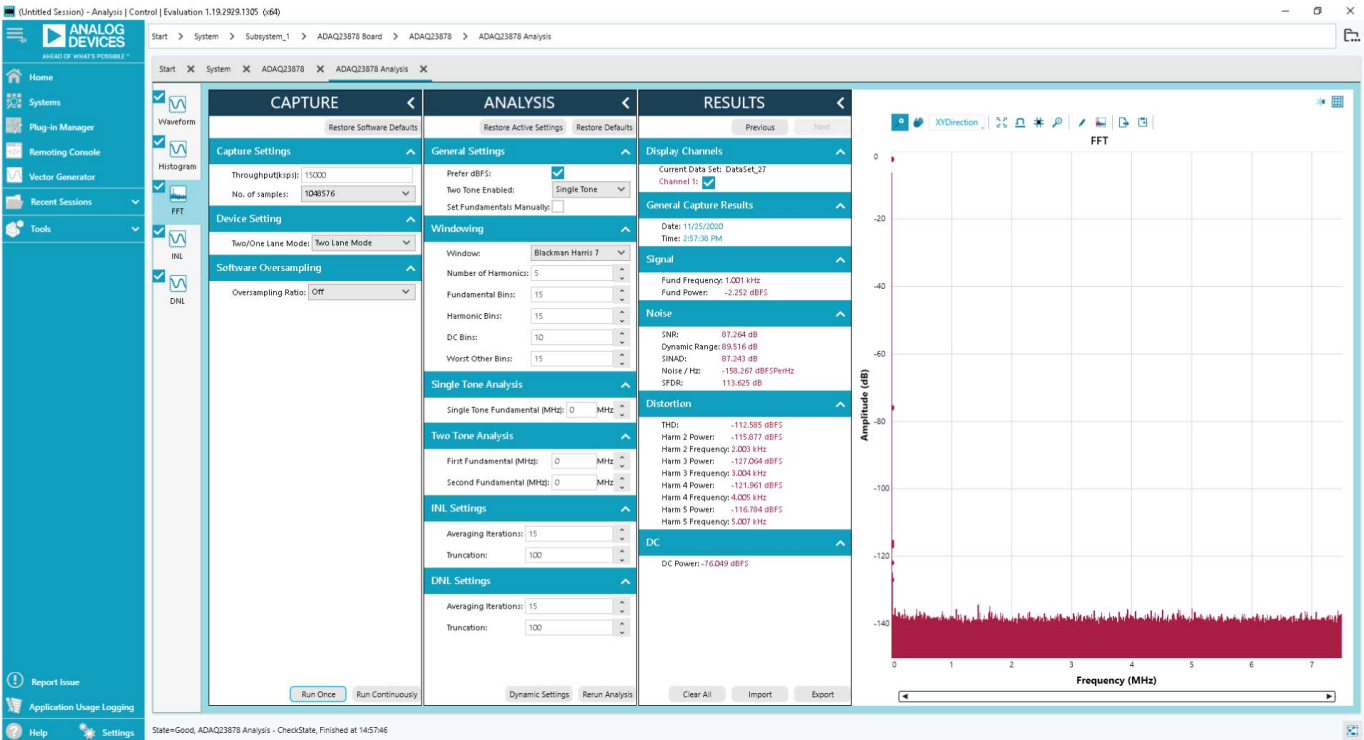
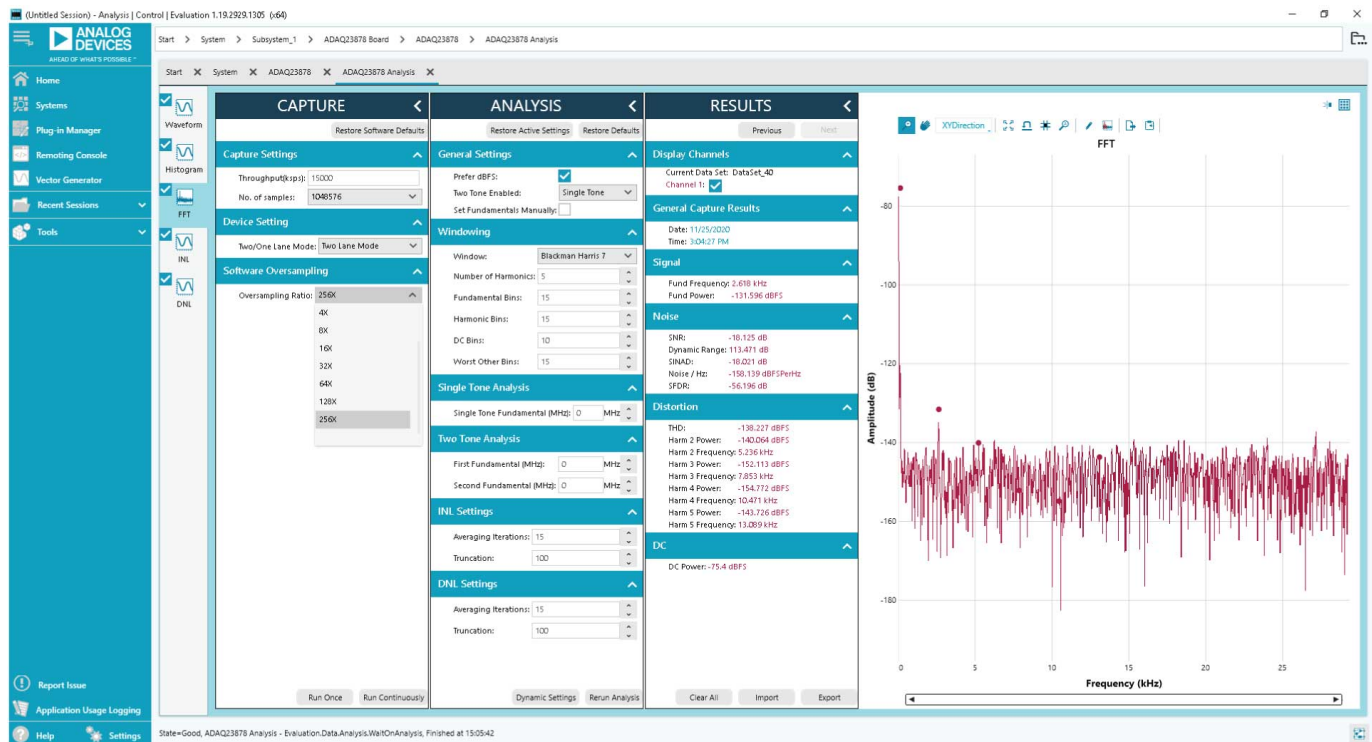

Figure 20. FFT Tab
Figure 21. FFT with Oversampling (OSR) of 256x, Inputs Shorted
The **FFT** tab displays FFT information for the last batch of samples gathered, as shown in Figure 20. The **FFT** tab also allows the oversampling function with an oversampling rate (OSR) up to 256 $\times$ , as shown in Figure 21. Oversampling by a factor of four provides one additional bit of resolution, or a 6 dB increase in the dynamic range (DR) of the ADAQ23876 or ADAQ23878. In other words,